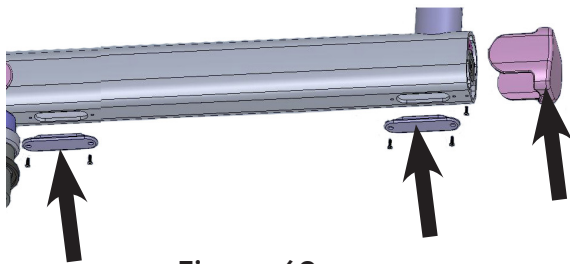

Figure 69
- Remove 2 bottom caps of the straight arm by removing M3x6 self tapping screws (2 screws for each cap) using phillips screw driver as shown in Figure 69 .
- Remove front end cap of straight arm by removing one M3x6 self tapping screw at bottom side using phillips screw driver as shown in Figure 69 .
- Remove the bottom caps of the new straight-arm by removing M3x6 self tapping CSK screws using screw driver and remove the end cap of the straight-arm by removing M3x6 self tapping CSK screw using screw driver as shown in Figure 69.